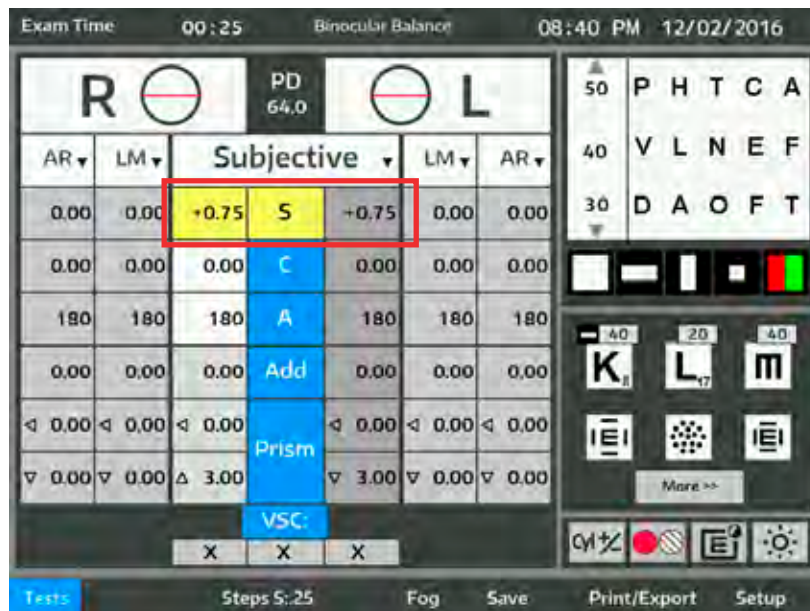

Figure IU-27 Binocular Balance with Prisms
2. Select an appropriate test chart of a single vertical line of optotypes or a single optotype. The default chart selected for the phoria test is presented to the patient. If no default chart was selected, refer to the **Selecting Default Charts** section of this manual. Refer to Figure IU-27.
1. Touch the center S, C, or A icons so both apertures (right and left) open to measure. Refer to Figure IU-27